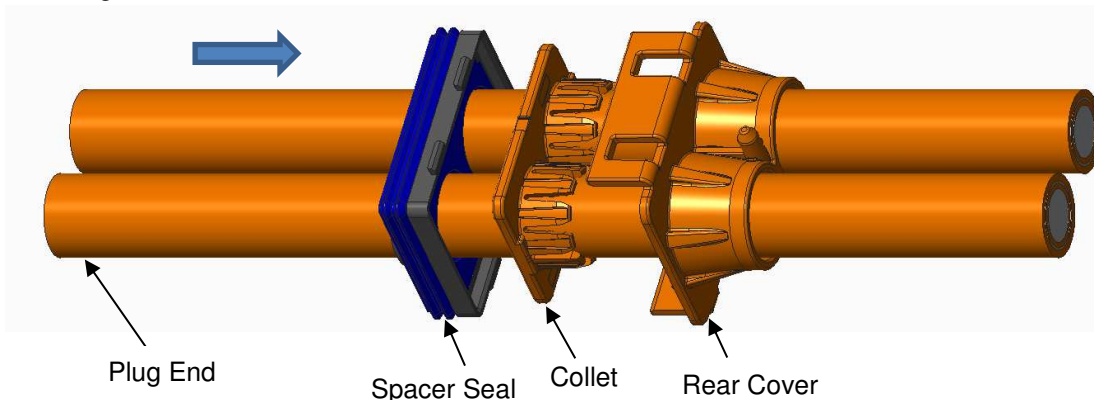

Figure 3: Rear cover, collet, and spacer seal loaded on cable
1. From the plug end of the cable, slide the rear cover, collet, and spacer seal in the order and orientation as shown in Figure 3.